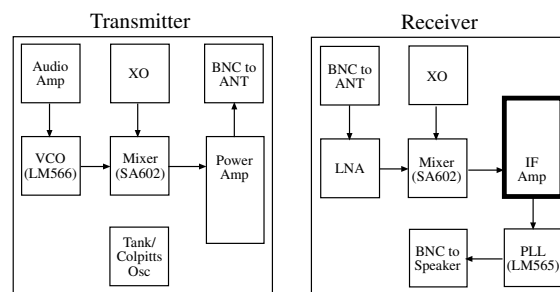

Figure 1: How the IF amp and filter fits into your circuit
As you can see from Figure 1, the IF Amp will be taking the output of your multiplier and amplifying it so that your PLL can still track your input signal.
- **Soldering Tips:** Solder up the filter you designed on your receive board (refer to the roadmap in Figure 1 for the proper location). Also, be sure when laying out the circuit to keep in mind that the final incarnation will consist of two discrete op-amps, several resistors for setting the